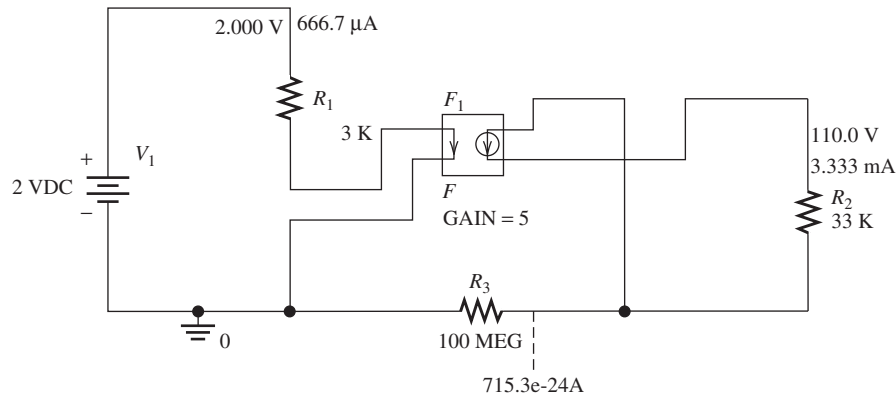

FIGURE 2.92 Simulation results.
7. Then the CCCS gain block will show “GAIN = 5” as shown in Figure 2.92.
8. Set up the simulation profile with “Analysis Type” as “Bias Point” and run the simulation. The simulation result is shown in Figure 2.92.